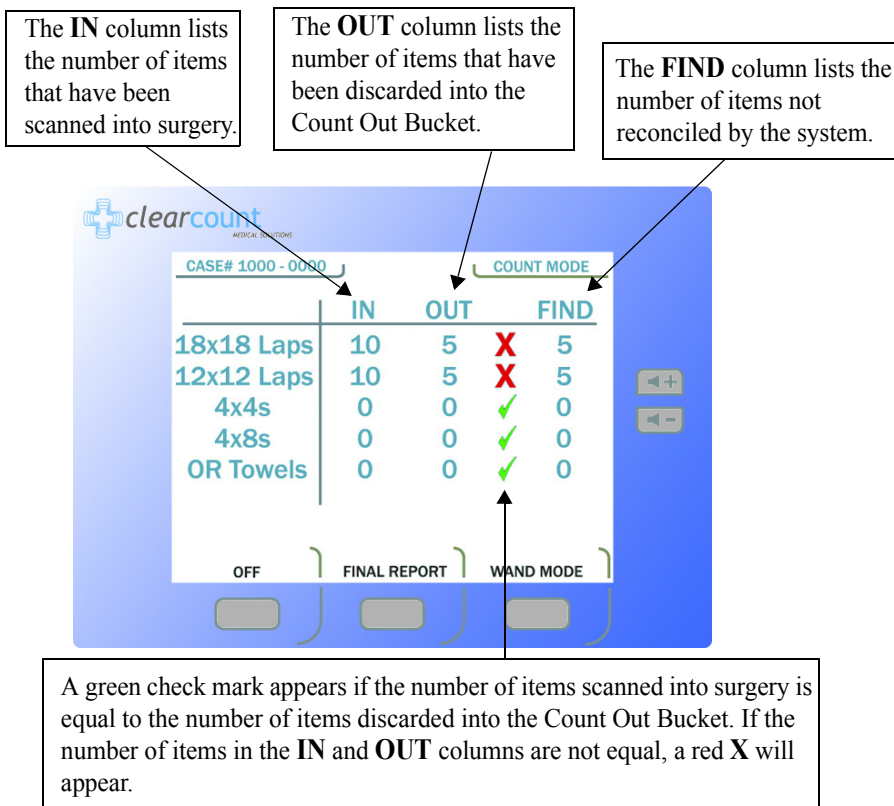

Figure 2-5 Count Mode Screen
From the Count Mode screen, shown in Figure 2-5, you can:
Step 1 Scan packages of SmartSponge surgical sponges and towels into the surgical case by holding them flat on the Scanner Tray over the area marked **Touch Here to Scan**. A message Scanning In appears on the screen when items are placed on the Scanner Tray. Hold the item until the system adds them to the **IN** (inventory) column. If the package fails to scan, turn it over and try again. Figure 2-5 shows the **IN** column. Packages of sponges and towels must be scanned one package at a time. Immediately remove scanned packages. Do not rest sponge packages or any other items on the Count In Scanner.
When placed in the Final Report Mode, the system provides final sponge counts for the surgery. Before ending the case, verify that the quantities displayed in the **IN** and **OUT** columns on the **Count Mode** screen are equal, and a green check mark appears next to them. See Figure 2-5. The green check mark indicates that the count is reconciled.